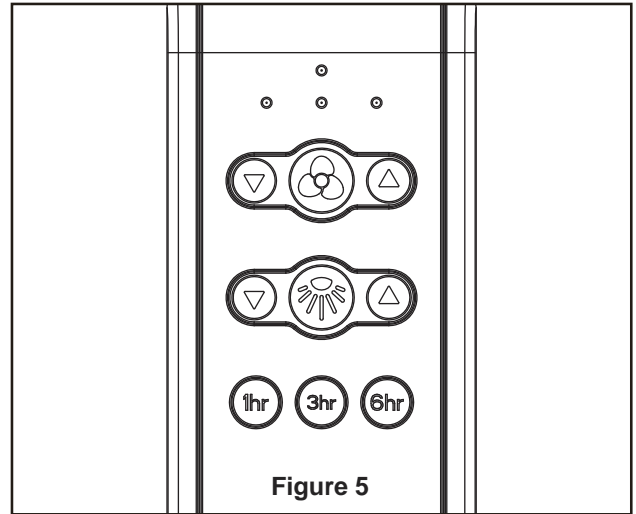

Figure 5
- 5.** Assemble the LED assembly to the light kit using the two key slots and replace the third screw and securely tighten all three screws. (Figure 5 )
### 5. Remote functions: (Figure 5)